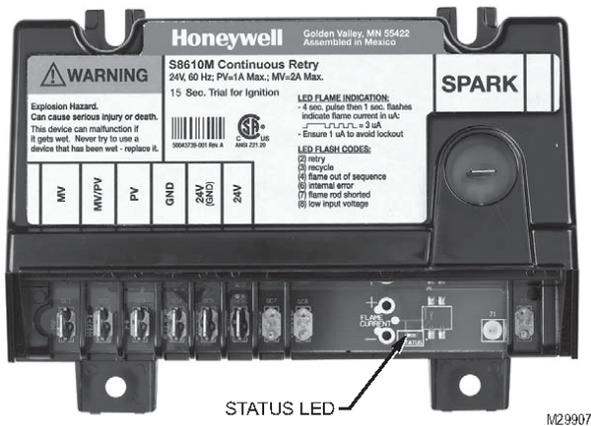

Figure 10-1: Location of LED
See Figure 10-1 for electronic ignition (EI). Electronic Ignition Modules with LED indicators. Table 10-2 cross-references ignition module terminal designations to ignition terminal numbers in wiring ladder diagrams. Table 10-4 provides green LED status codes and recommended service action where applicable. See Figure 10-1 for Location of LED. See Figure 14-1 for Troubleshooting Guide.